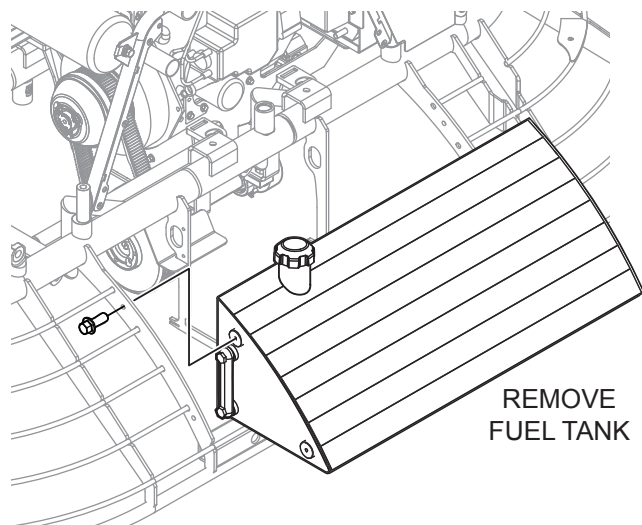

Figure 8. Fuel Tank Removal
4. Use a 13mm socket to remove the 4 bolts securing the fuel tank to the frame. Set aside for later use. See Figure 8.